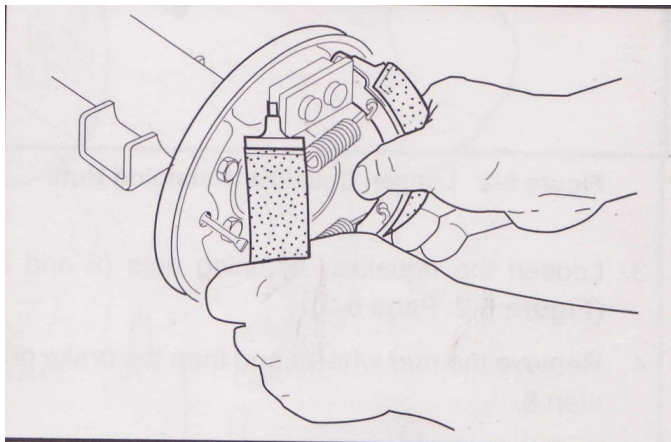

Figure 6-6
- Grasp both brake shoes and pull them, together with the springs, out of the brake assembly (Figure 6-6).